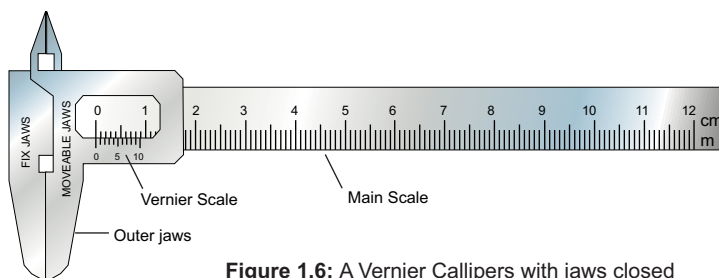

Figure 1.6: A Vernier Callipers with jaws closed
other instruments such as a Vernier Callipers. A Vernier Callipers consists of two jaws as shown in figure 1.6. One is a fixed jaw with main scale attached to it. Main scale has centimetre and millimetre marks on it. The other jaw is a moveable jaw. It has vernier scale having 10 divisions over it such that each of its division is 0.9 mm. The difference between one small division on main scale and one vernier scale division is 0.1 mm. It is called least count (LC) of the Vernier Callipers. Least count of the Vernier Callipers can also be found as given below: